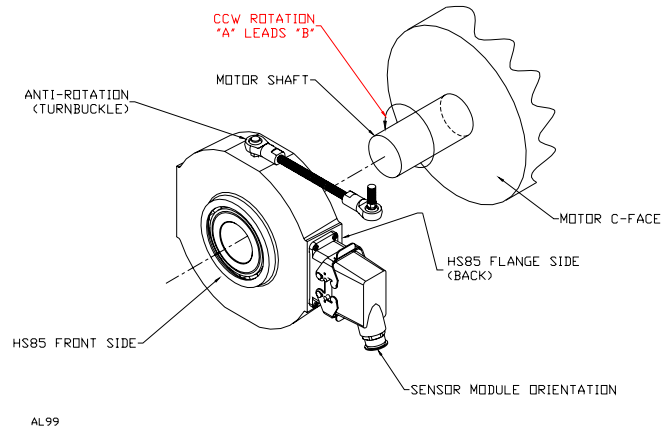

Figure 2: Encoder Housing Orientation
Figure 2: Encoder Housing Orientation.....	7
2. Slide encoder housing onto motor shaft with flange surface (back side-see Figure 2) facing the motor, and tilted so the sensor head is facing downward. In this orientation, the B channel will lead the A channel when shaft rotation is CCW.